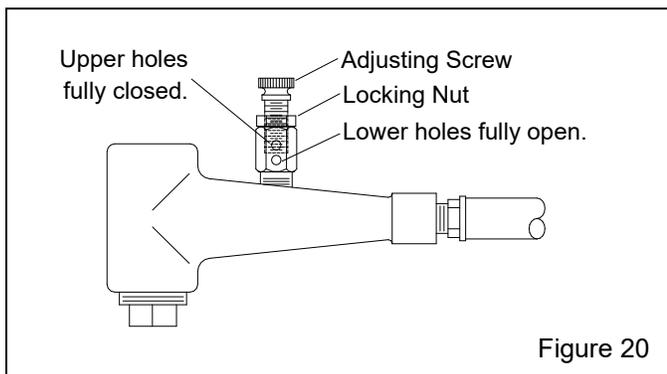

Figure 20
5.3 Media/Air Mixture (media flow) – Figure 20
5.3.2 If media does not flow smoothly, loosen the locking nut and adjust the metering screw until the upper holes in the metering stem are closed off and the lower holes are fully open, as shown in Figure 20. This adjustment is a starting point.